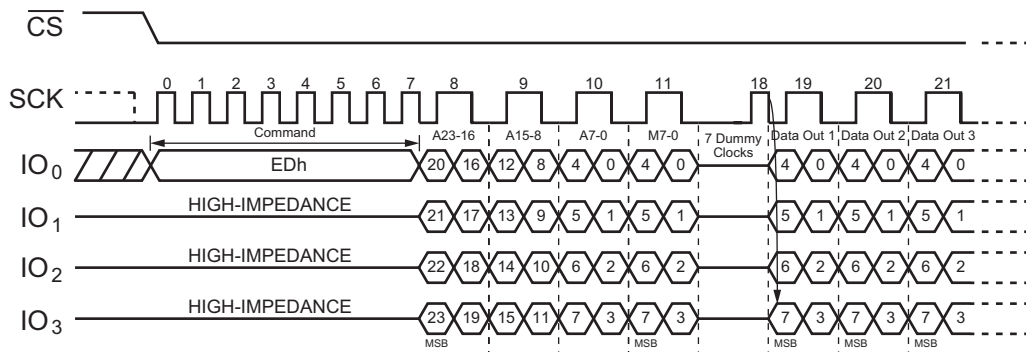
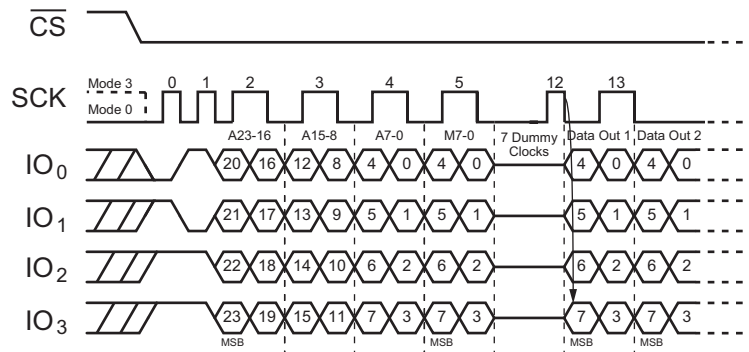
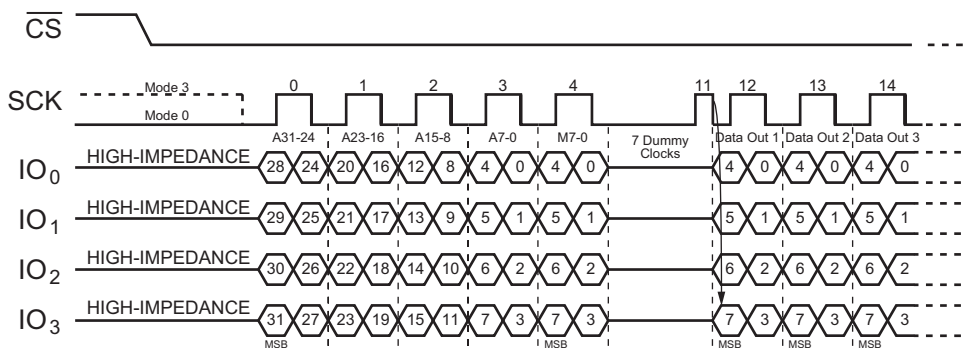

Figure 51. DTR Fast Read Quad I/O (SPI Mode, Three-Byte Address Mode; Initial command or previous (M5-4≠(1,0))
Figure 55. DTR Fast Read Quad I/O (QPI Mode, Three-Byte Address Mode; Initial command or previous (M5-4≠(1,0)))
Figure 58. DTR Fast Read Quad I/O (QPI Mode, Four-Byte Address Mode; Initial command or previous (M5-4=(1,0)))
The DTR Fast Read Quad I/O (EDh) command is similar to the Fast Read Dual I/O (BBh) command, except that address and data bits are input and output through four pins: IO₀, IO₁, IO₂, and IO₃; also, four Dummy clocks are required in SPI mode before the data output, as shown in Figure 51 to Figure 58. The Quad Enable bit (QE) of Status Register must be set to enable.
The DTR Fast Read Quad I/O command is also supported in QPI mode, as shown in Figure 55 to Figure 58. In QPI mode, the Continuous Read Mode can further reduce command overhead by setting the Continuous Read Mode bits (M7-0) after the input Address bits (A23/31-0). See the description on previous pages. If the Continuous Read Mode bits (M5-4) = (1,0), the next Fast Read Quad I/O command (after CS is raised and then lowered) does not require the EDh opcode. If the Continuous Read Mode bits M5-4 do not equal (1,0), the next command requires the first EDh opcode, thus returning to normal operation. A Continuous Read Mode Reset command can also be used to reset (M5-4) before issuing normal command.